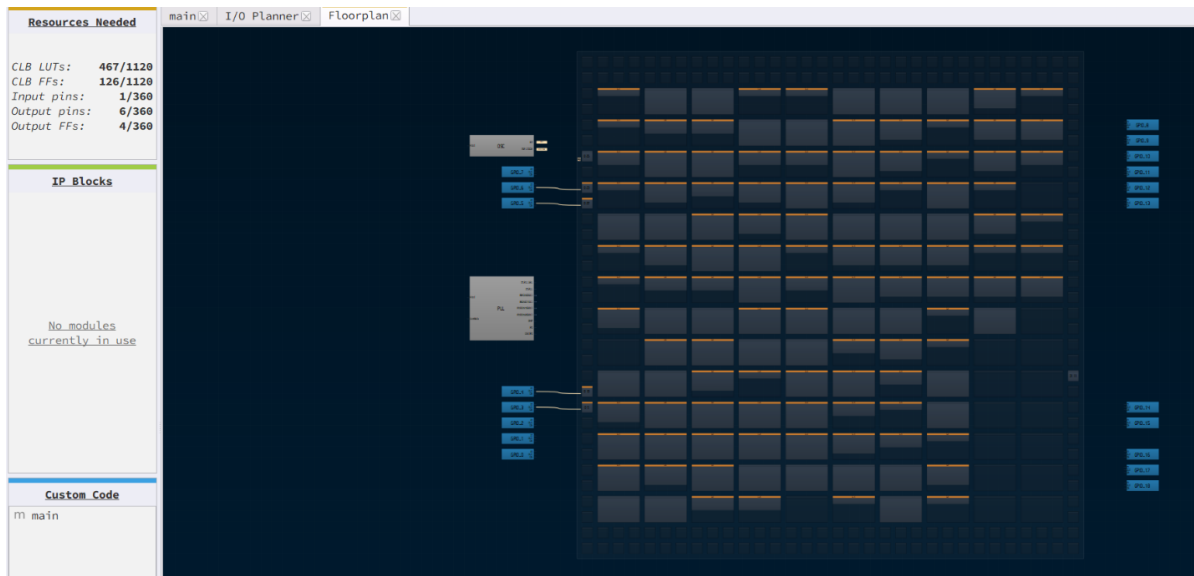

Figure 3: Four Channel Breathing CLB utilization
The Floorplanner tab in the FPGA Editor shows the placement of the CLBs and FFs (Figure 3). The resource utilization is shown in the top left corner.
8. Now click on the Floorplan tab and see the CLB utilization (Figure 3). Press the Ctrl and the mouse wheel to zoom-in. Confirm that the IOs selected in the IO Planner are shown in the floorplan.